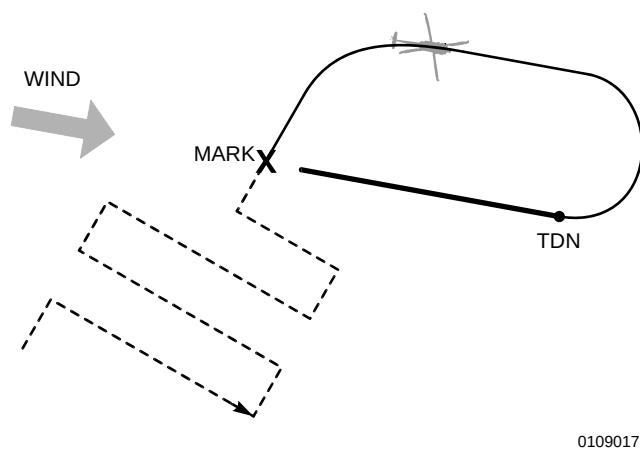

Figure 11-5
- The MARK point is designated when overflying a certain point (Figure 11-5).